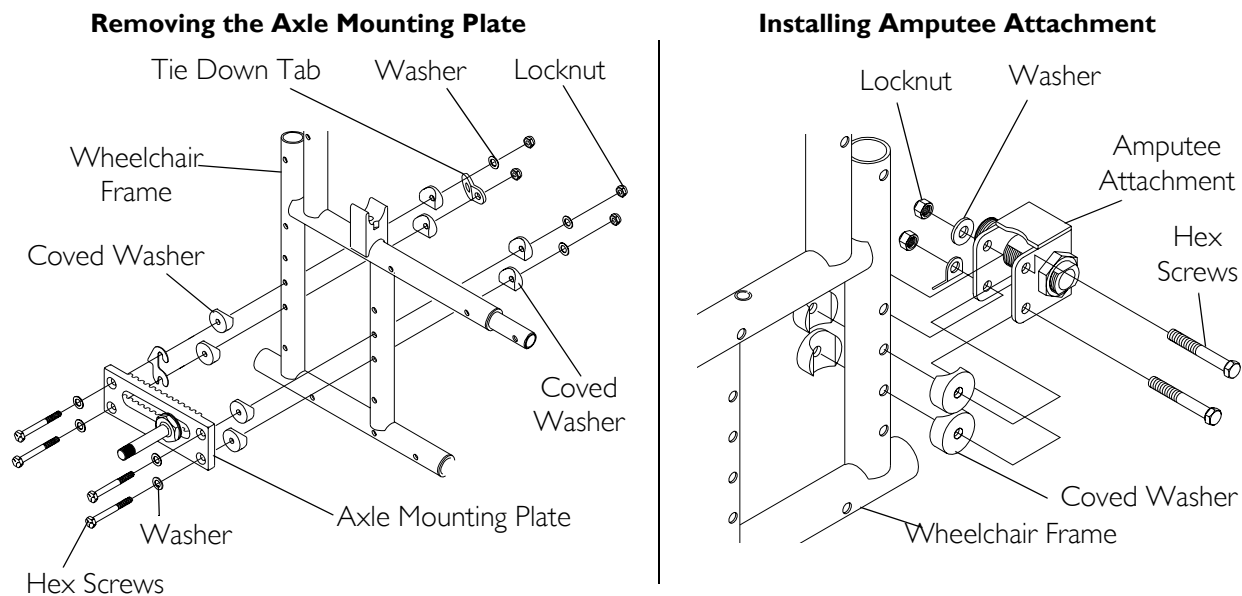

FIGURE 9.4 Installing Amputee Attachments
NOTE: For this procedure, refer to FIGURE 9.4.
6. Install the washer and tie down onto two (2) hex screws. (FIGURE 9.4).